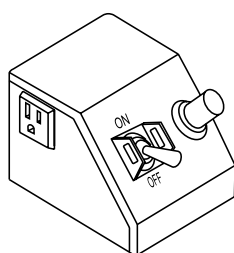

Figure 17. Power ON/OFF Switch (OFF)
1. Place the power ON/OFF switch (Figure 17) in the OFF position (down).